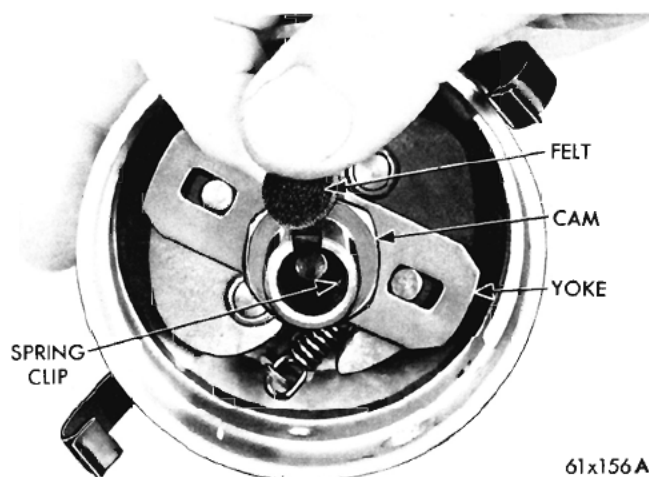

Fig. 4—Removing or Installing Cam Felt Wick
(1) Remove the distributor rotor.
(2) Remove the retainer attaching the vacuum advance unit to the contact plate advance arm.
(3) Remove the two screws and lockwashers attaching the vacuum advance unit to the distributor housing and remove the unit.
(4) Remove the primary lead wire and rubber grommet as an assembly. Push the grommet towards the inside of the distributor to remove. Do not pull on the wire.
(5) Remove the two screws, and lockwashers attaching the contact plate to the housing and lift out the contact plate, contacts and condenser as an assembly.
(6) Remove the oil wick from the distributor cam (Fig. 4). Remove the spring clip from the oil well in the cam and remove the cam and yoke assembly and spacer.
(7) If the side play exceeded .006 inch in the "Shaft